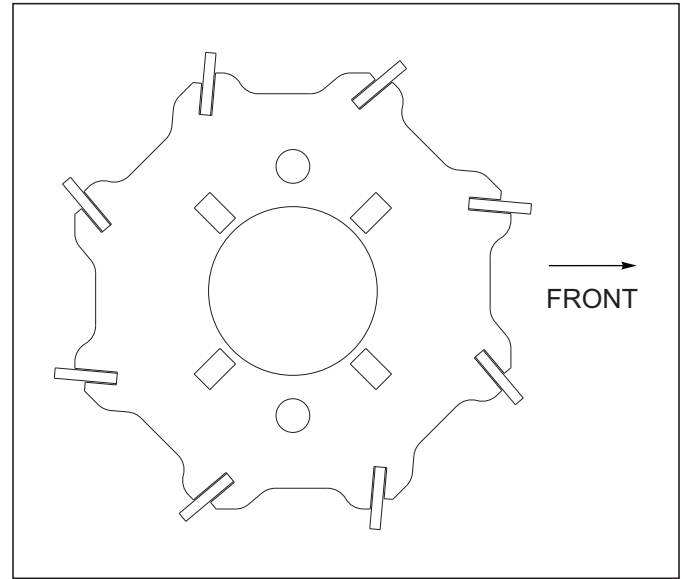

Figure 3-22: Flat Reel
7. Attach flat bar reels with angled blades as shown See Figure 3-22.